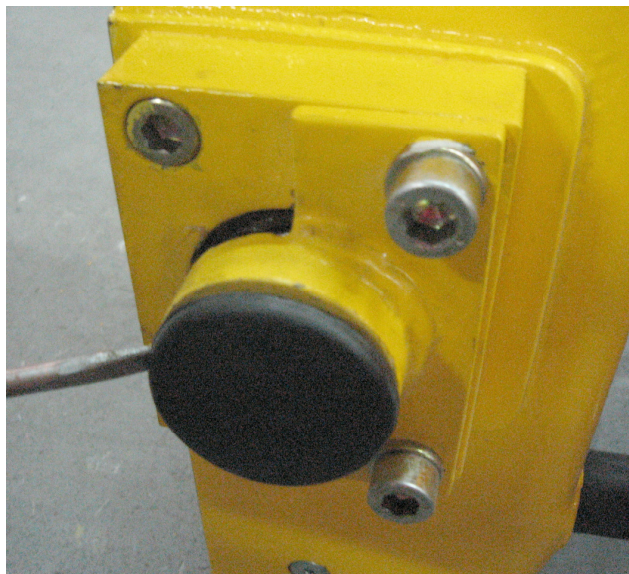

Figure 3
1. To remove the drum assembly, first remove the plastic cap using a screwdriver. (See Figure 3)